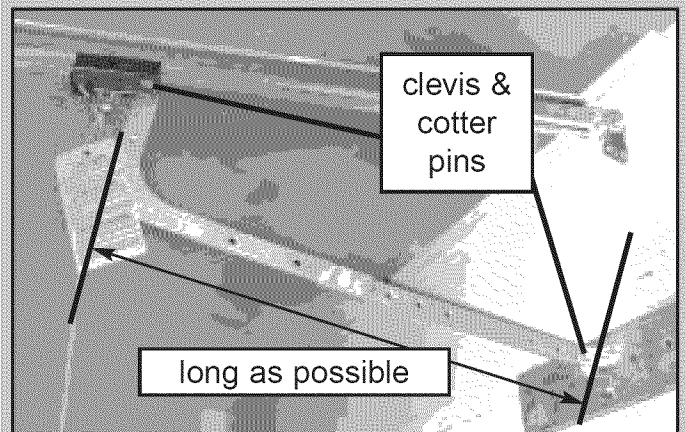

FIG. 2-12 Attaching door arms (1-piece doors)
- Straight arm to door bracket using clevis pin (24) and cotter pin (25) (**Fig. 2-12**).
- Curved arm to carriage using clevis pin (24) and cotter pin (25) (**Fig. 2-12**).
- Fasten arms together using 2 bolts (27) and nuts (28) (**Fig. 2-12**).